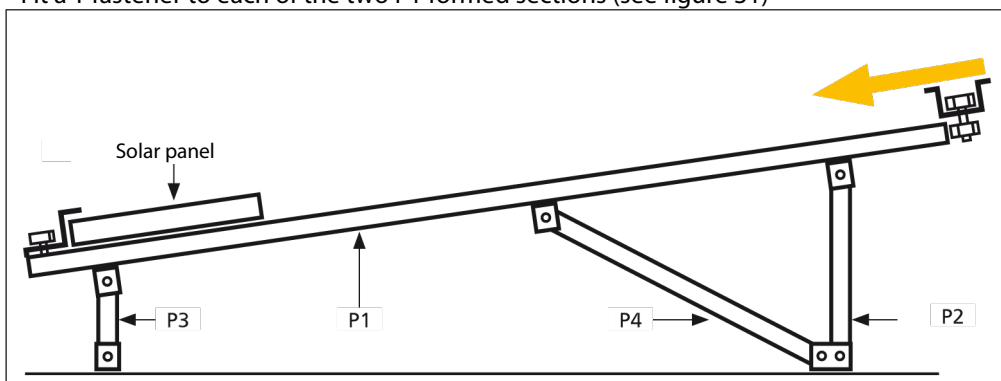

Figure 31
- Fit a T fastener to each of the two P1 formed sections (see figure 31)